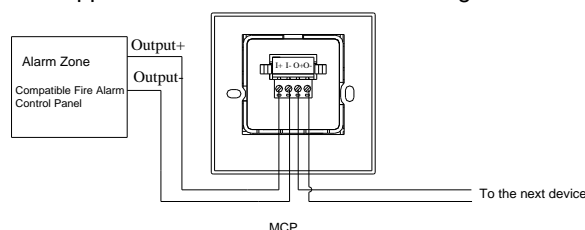

Fig. 4
- ✧ Application of the MCP is shown in Fig. 4.